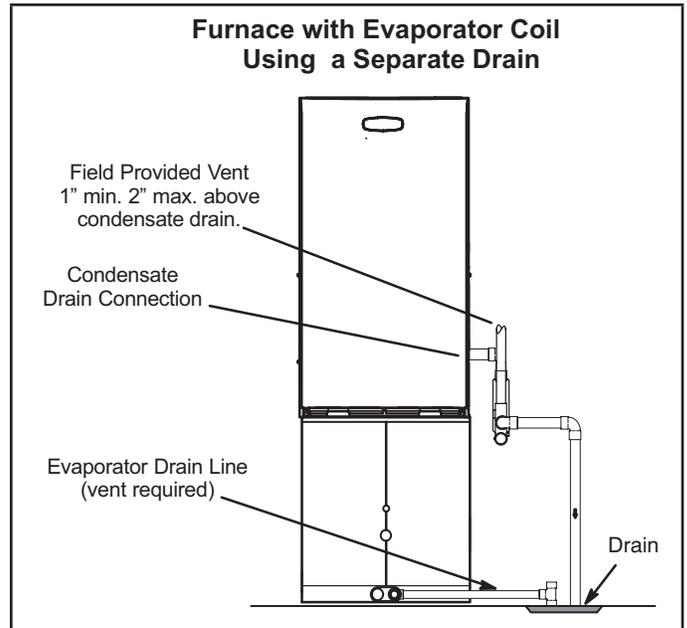
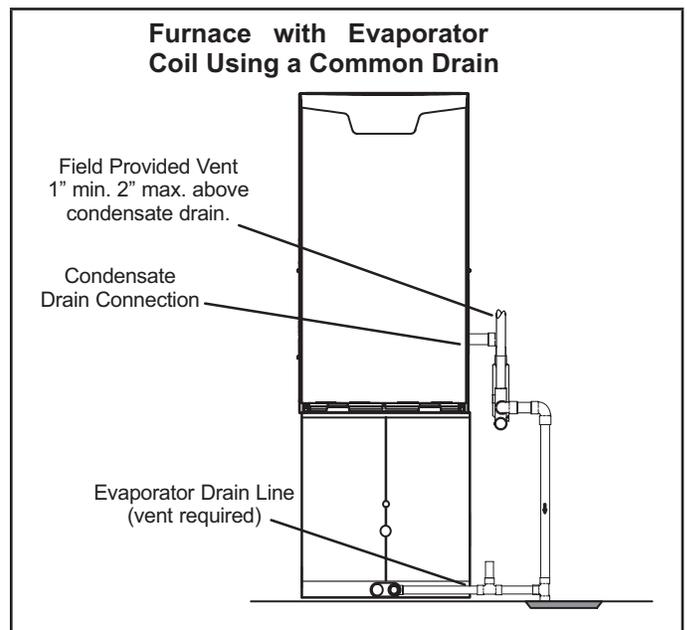

FIGURE 48
FIGURE 49
- 5 - FIGURE 48 shows the furnace and evaporator coil using a separate drain. If necessary, the condensate line from the furnace and evaporator coil can drain together. See FIGURE 49. The field provided vent must be a minimum 1" to a maximum 2" length above the condensate drain outlet connection.